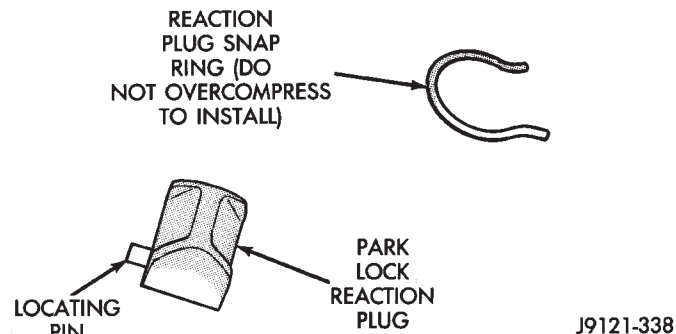

Fig. 237 Reaction Plug Locating Pin And Snap-Ring
(2) Install pawl shaft retaining bolt. Tighten bolt to 27 N·m (20 ft. lbs.) torque.
(3) Install park lock reaction plug. **Note that plug has locating pin at rear (Fig. 237). Be sure pin is seated in hole in case before installing snap ring.**